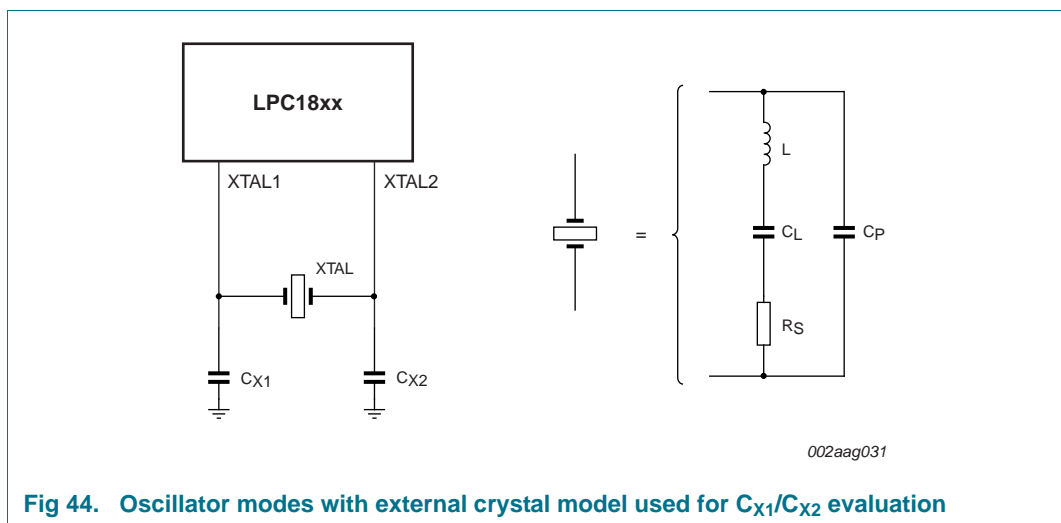

Fig 44. Oscillator modes with external crystal model used for C_{X1}/C_{X2} evaluation
- External components and models used in oscillation mode are shown in Figure 44, and in Table 26 and Table 27. Since the feedback resistance is integrated on chip, only a crystal and the capacitances C_{X1} and C_{X2} need to be connected externally in case of fundamental mode oscillation (the fundamental frequency is represented by L , C_L and R_s). Capacitance C_P in Figure 44 represents the parallel package capacitance and should not be larger than 7 pF. Parameters F_C , C_L , R_s and C_P are supplied by the crystal manufacturer.